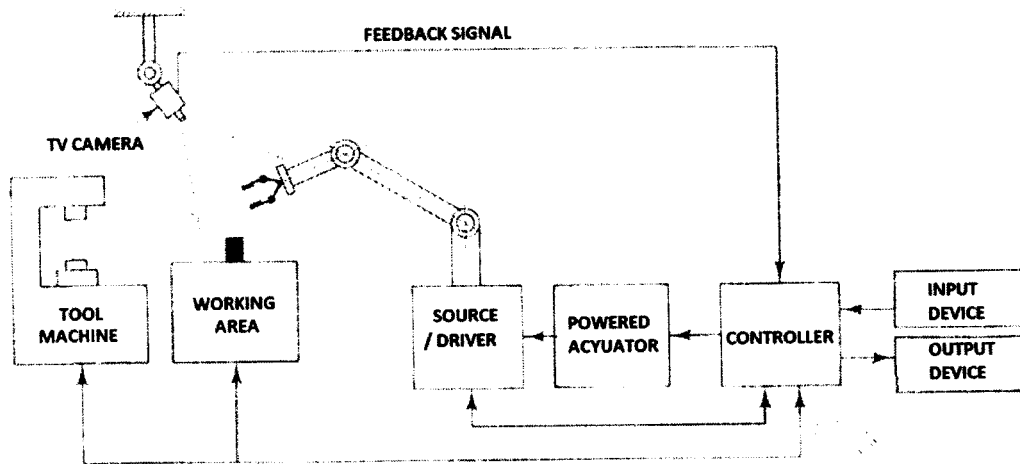

Figure Q4 (b)
- (b) **Figure Q4 (b)** represents a control block diagram for visual pattern recognition by a robot to accomplish a task of pick and place object, back and forth on the working area and tool machine.